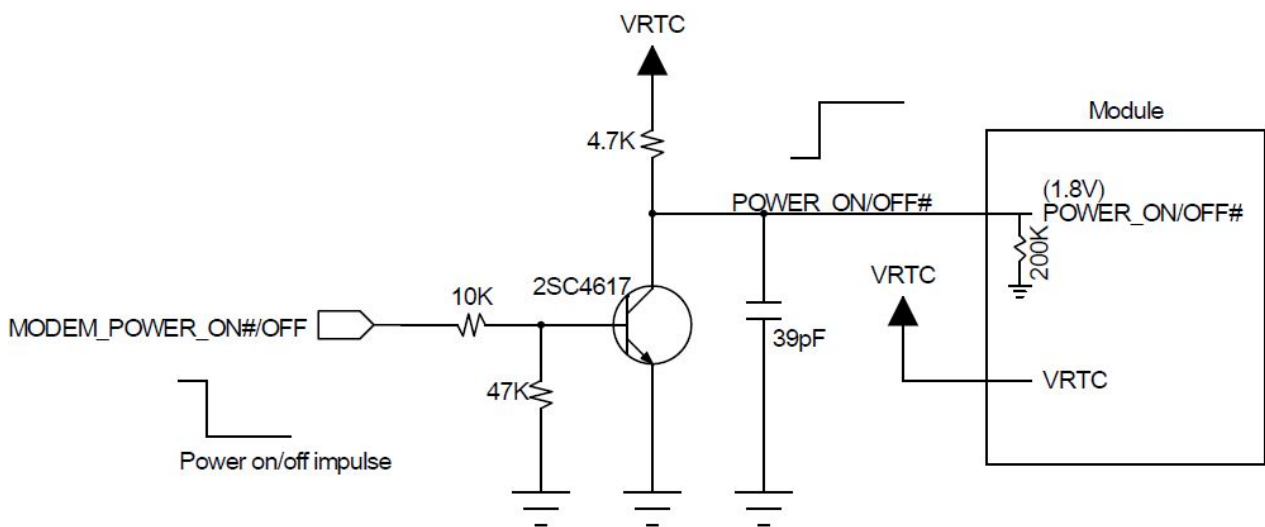

Figure 3-5 Circuit for Module Start-up Controlled by AP
- AP (Application Processor) controls the module start-up, and the circuit design is shown in Figure 3-5: